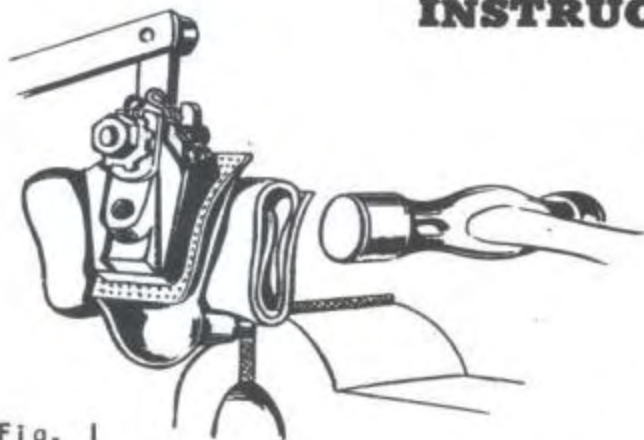

Fig. 1
- b) Apply outward pressure with light stroke, motion against shielded chain housing. (Fig. 1)
- 2: Pull out hand throttle until distance between end of idle screw and cold idle cam when held in fast idle position is $1/8"$. The proper position of the hand throttle can be determined easily by the use of a $1/8"$ spacer, as shown in View "A", Figure 1. The hand throttle must remain in this position during the following tests.
- 1: Remove cover from the choke body. In doing this it will be necessary to remove the two choke mounting bolts View "C", Figure 1, which must be replaced after the cover is removed to hold choke body in place.
- 2: Hold throttle wide open - thus adjusting ear will be in position shown in View "D", Figure 1. Bend ear up cautiously until car can be started repeatedly with $1/8"$ spacing described above, usually it will be unnecessary to bend the adjusting ear more than $1/64"$.
- 2: It should be impossible to start engine more than once with throttle held in this position. Allow engine to run a few seconds to build up vacuum. If engine can be started continuously with throttle in this position, the adjusting ear should be bent down slightly until only one start can be made. After this adjustment has been made repeat the check with $1/8"$ spacing per View "A", Figure 1. If ear has not been bent too far this should be corrected.